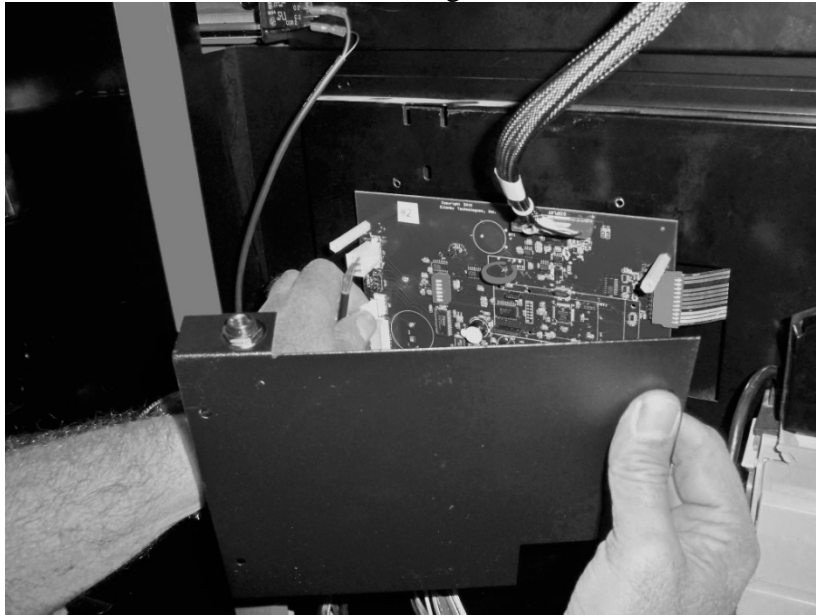

Figure 26
19. While supporting the Front Cover 05-1400-01 with one hand plug the DEX-27 cable into the VMC control board header marked “DEX” as shown in Figure 26.